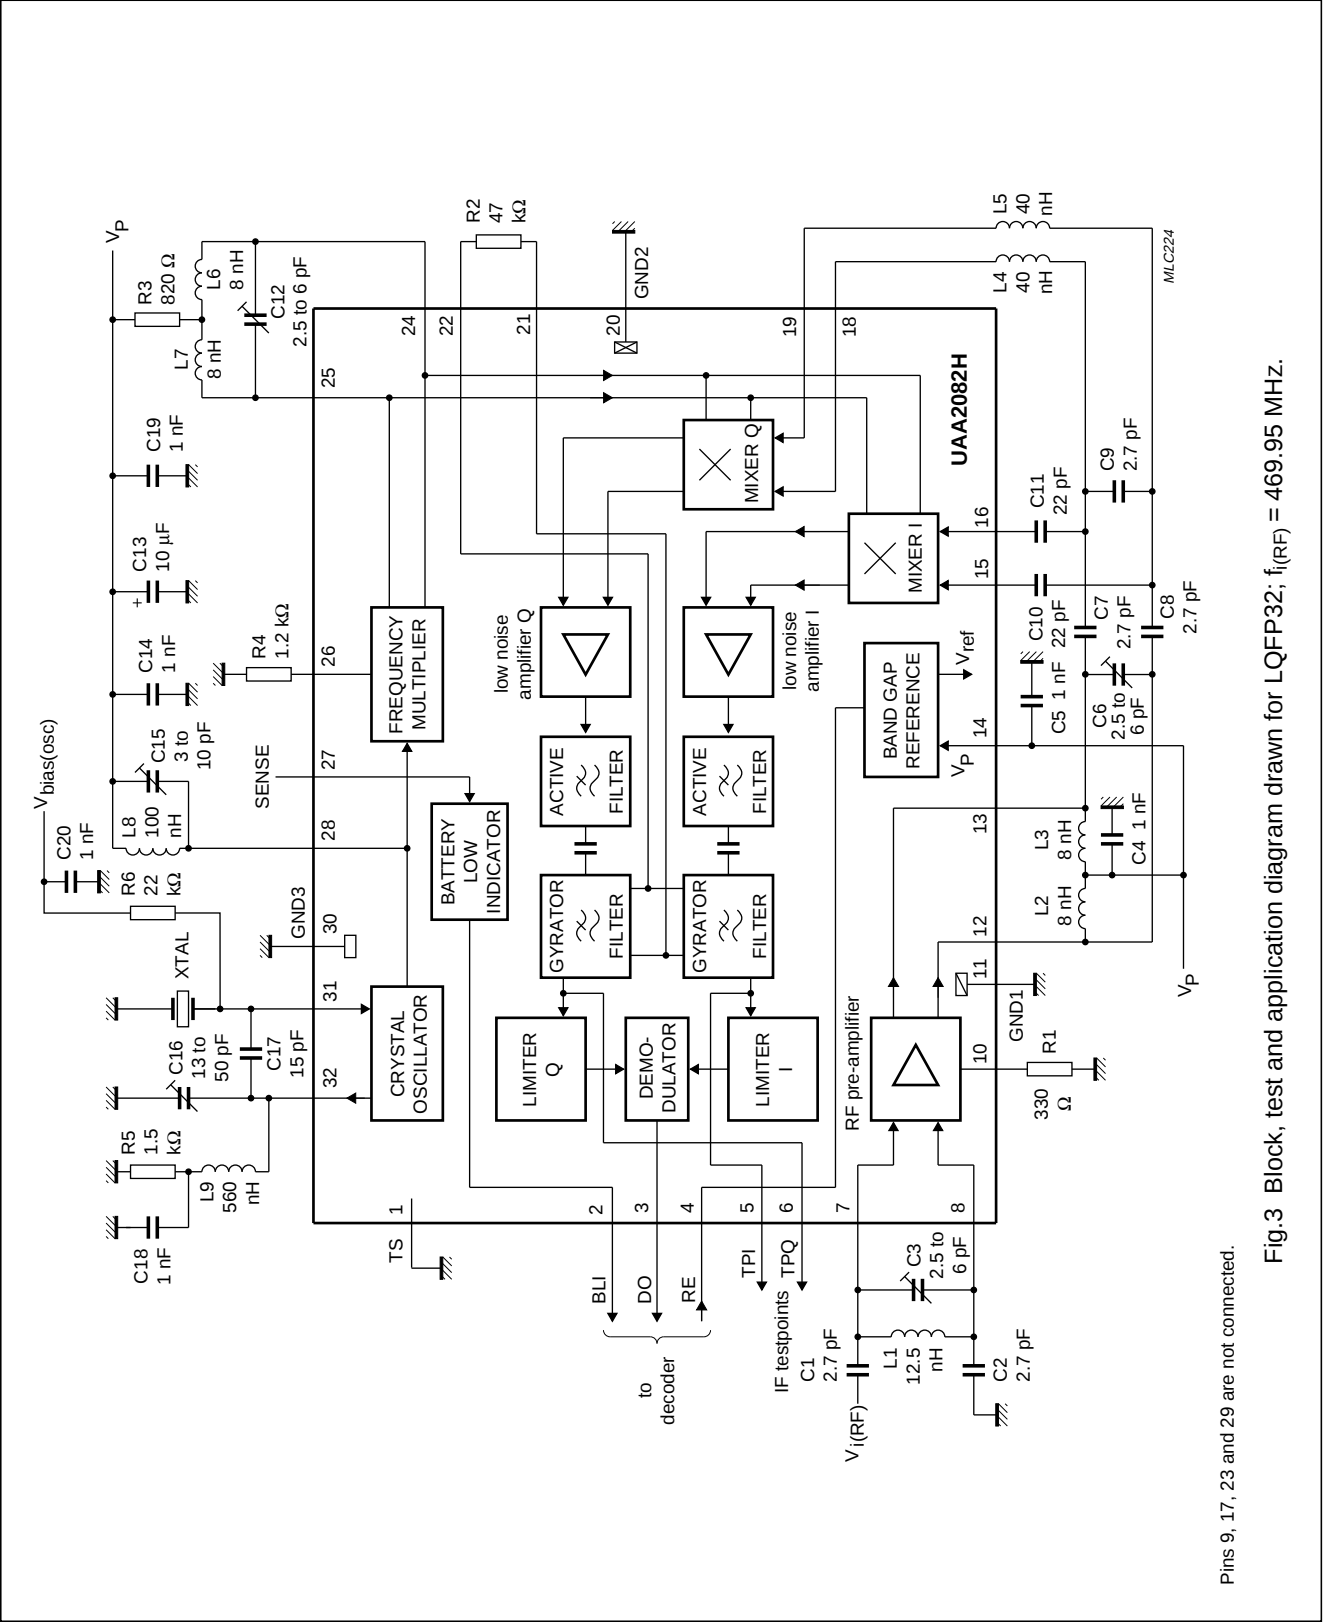

Fig.3 Block, test and application diagram drawn for LQFP32;  $f_{(RF)} = 469.95 \text{ MHz}$ .
**Table 2** Tolerances of components shown in Figs 3, 4 and 5 (notes 1 and 2)